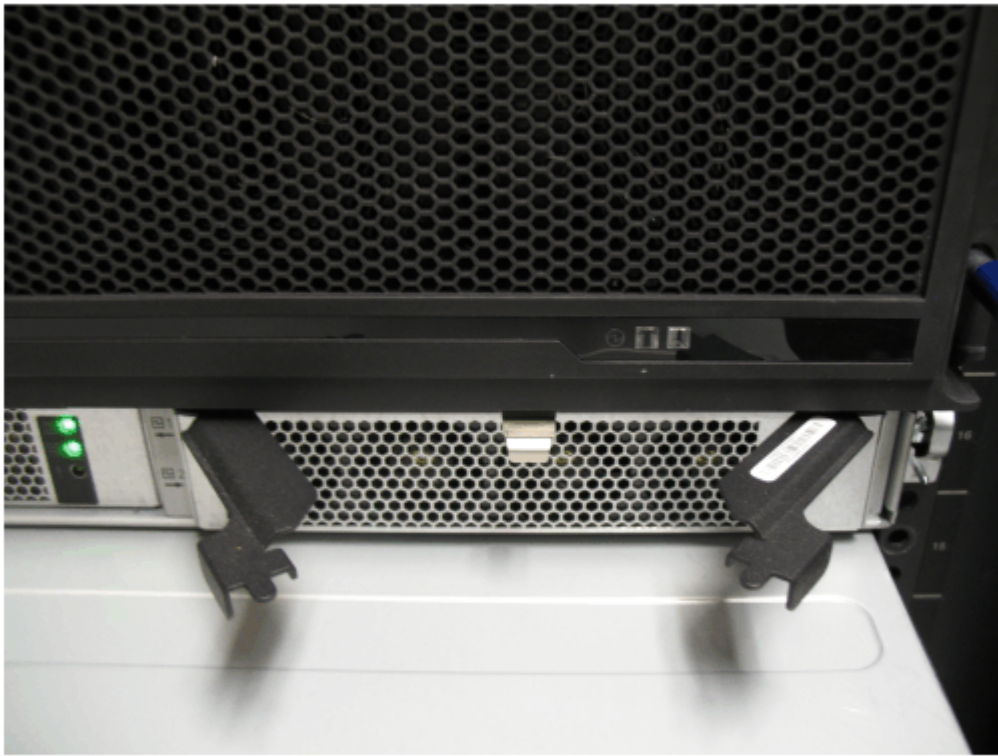

Figure 93. Install the power supply
3. Slide the PSU forward into the chassis until it clicks in to place, as shown in Figure 93 on page 76.